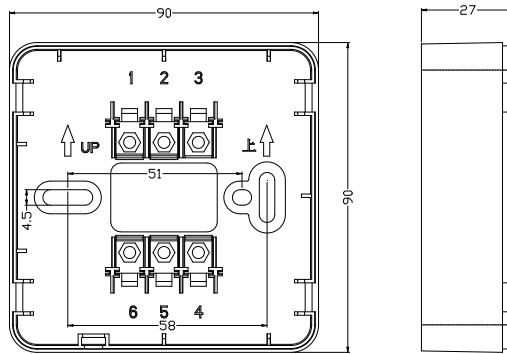

Figure 6 The supporting base of Manual Call Point
The installation of the manual alarm requires the use of a matching base. The supporting base is shown in Figure 6. The external dimensions are 90mm x 90mm x 27mm (L x W x H), the diameter of fixed holes is  $\varnothing 4.5\text{mm}$ , the spacing of fixed holes is 45mm to 63mm, and the pipe inlet wires are routed through the lower part of the base.
- a. According to the construction drawings, use two M4 screws to fix the supporting base to the specified position through the fixing holes shown in Figure 6 (there should be no barrier at least 20cm on one side of the resetting hole), and confirm that the base is securely installed;